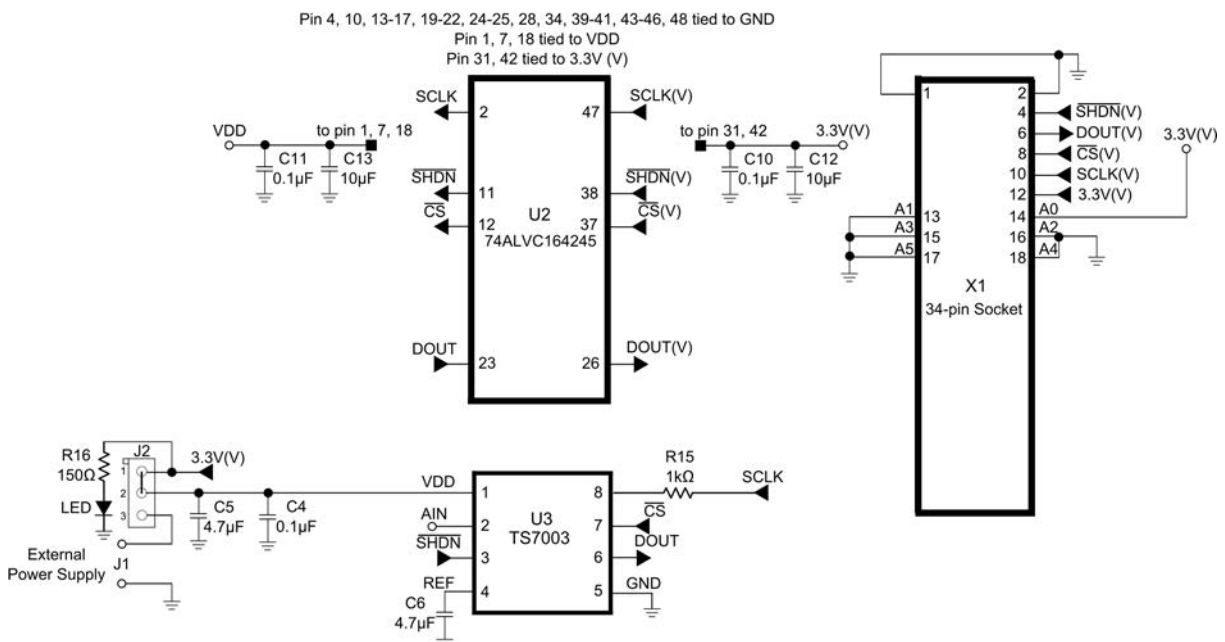

Figure 6. TSM1285 Evaluation Board Circuit
- 1) Set the voltage of the power supply between +2.7V and +3.6V and turn it off. Connect the positive terminal of the DC power supply to pin 12 labeled as "3.3V" on X1, and the ground terminal to pin 2 labeled as "GND". Refer to Figure 6.
- 3) To measure the supply current of the TSM1285, place jumper J2 to position 2-3. Then, apply an external power supply to J1. An ammeter can now be connected in series with the power supply for a supply current measurement of the TSM1285. The supply current should be less than 650 μ A. Please refer to Figure 6 and table 1.